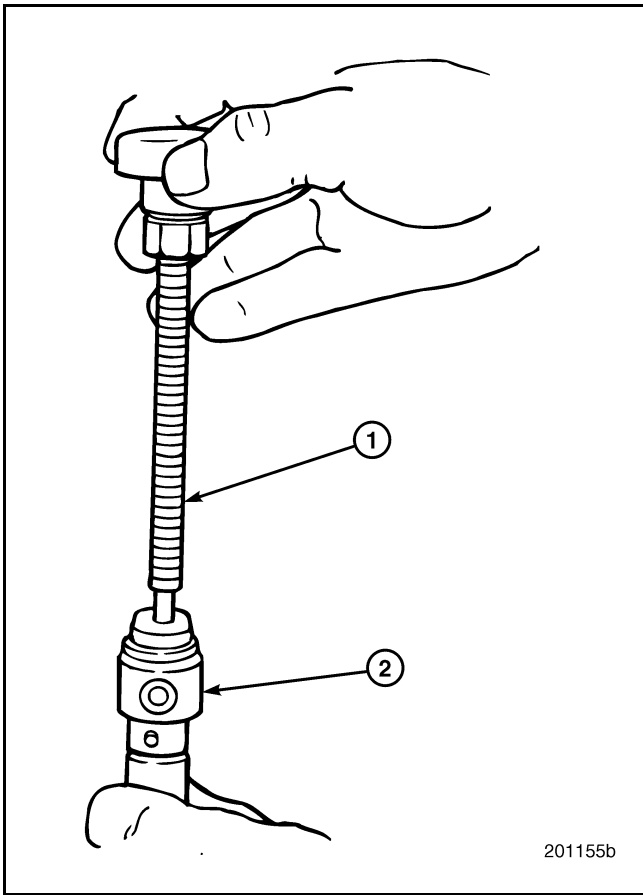

Figure 281 — Puller Application
3. Thread injection nozzle puller J 37093 into the top of nozzle holder as shown in Figure 281.